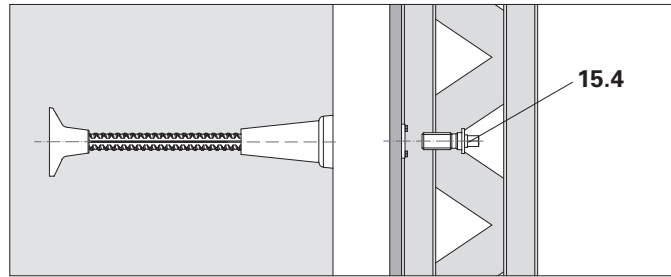

Fig. A2.12
3. Remove formwork with Adjusting Unit (see A4.4) or with Carriage (see A4.5). (Fig. A2.12)